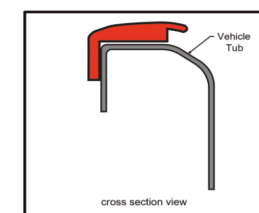

Figure g4
- Ensure the rear lengths (1000mm Long) of aluminium are positioned 5mm behind the rear of the sports bars and the notch is backward to rear. **Refer Figure G4**
- Using the drill templates, locate the templates along the bottom edge of alloy, mark the locations onto aluminium rail. **Refer Figure G4**.